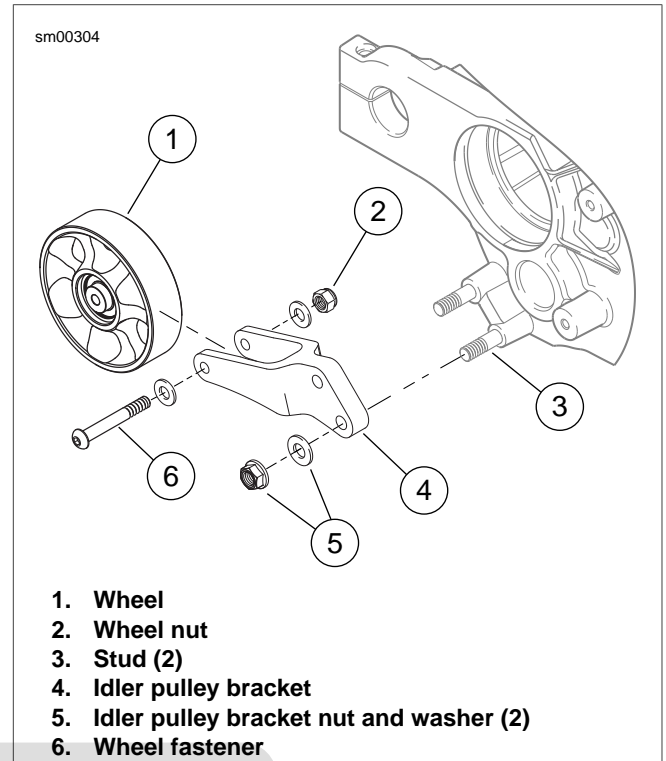

Figure 5-100. Idler Pulley Assembly
4. See Figure 5-100. Remove pulley and bracket. See 5.7 DRIVE BELT AND IDLER PULLEY.
5. Inspect pulley by spinning wheel (1) and checking for excessive wheel bearing wear. See 1.10 DRIVE BELT MAINTENANCE, Inspection.
6. If pulley wheel needs replacement, remove fastener (6) and nut (2) from idler pulley bracket (4) and discard. Replace with **new** pulley wheel (1).